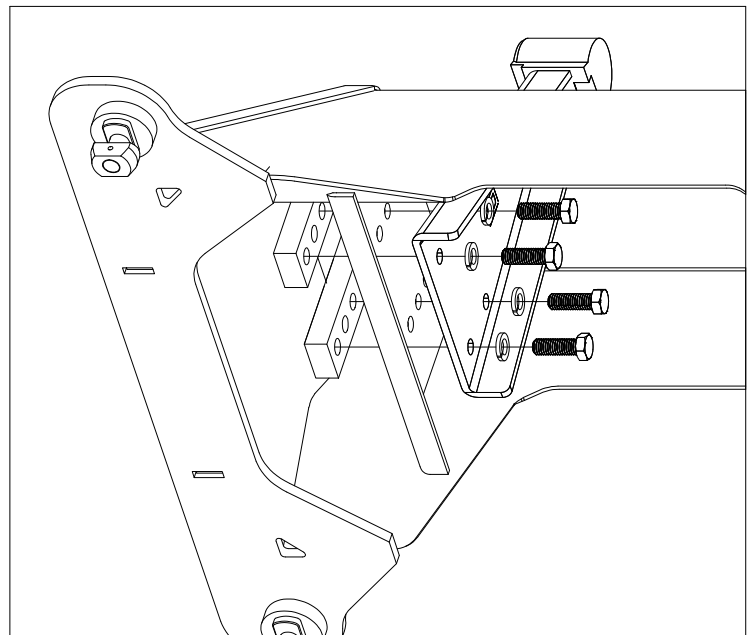

Figure A2: Passenger pivot arm mounting location.
- Secure arms.** Locate both pivot arms, the four threaded blocks, eight 1/2" cap screws, and eight 1/2" split lock washers. Place the lock washers over the cap screws. Align the flat side of the pivot arm flat against the bolt plate and install four 1/2" cap screws through the holes on the arm, holding the arm in place, as shown in Figure A2. Pass the threaded blocks under the bases side and align the block with each set of screws and start each screw, as shown in Figure A2. After all the screws are started through the arms, torque each bolt to 110 ft-lbs.